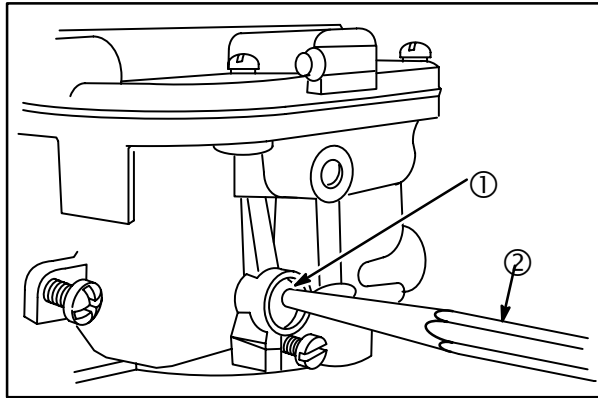

Fig. 85
1. Install new transitional hole Welch plug (1), **Fig. 85**.
2. Use a round punch (2). Tap in plug until it is flat.